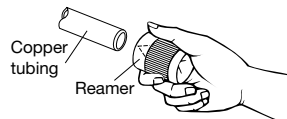

Figure 8
2. Remove burrs at the end of the copper tube with a tube reamer (Figure 8).